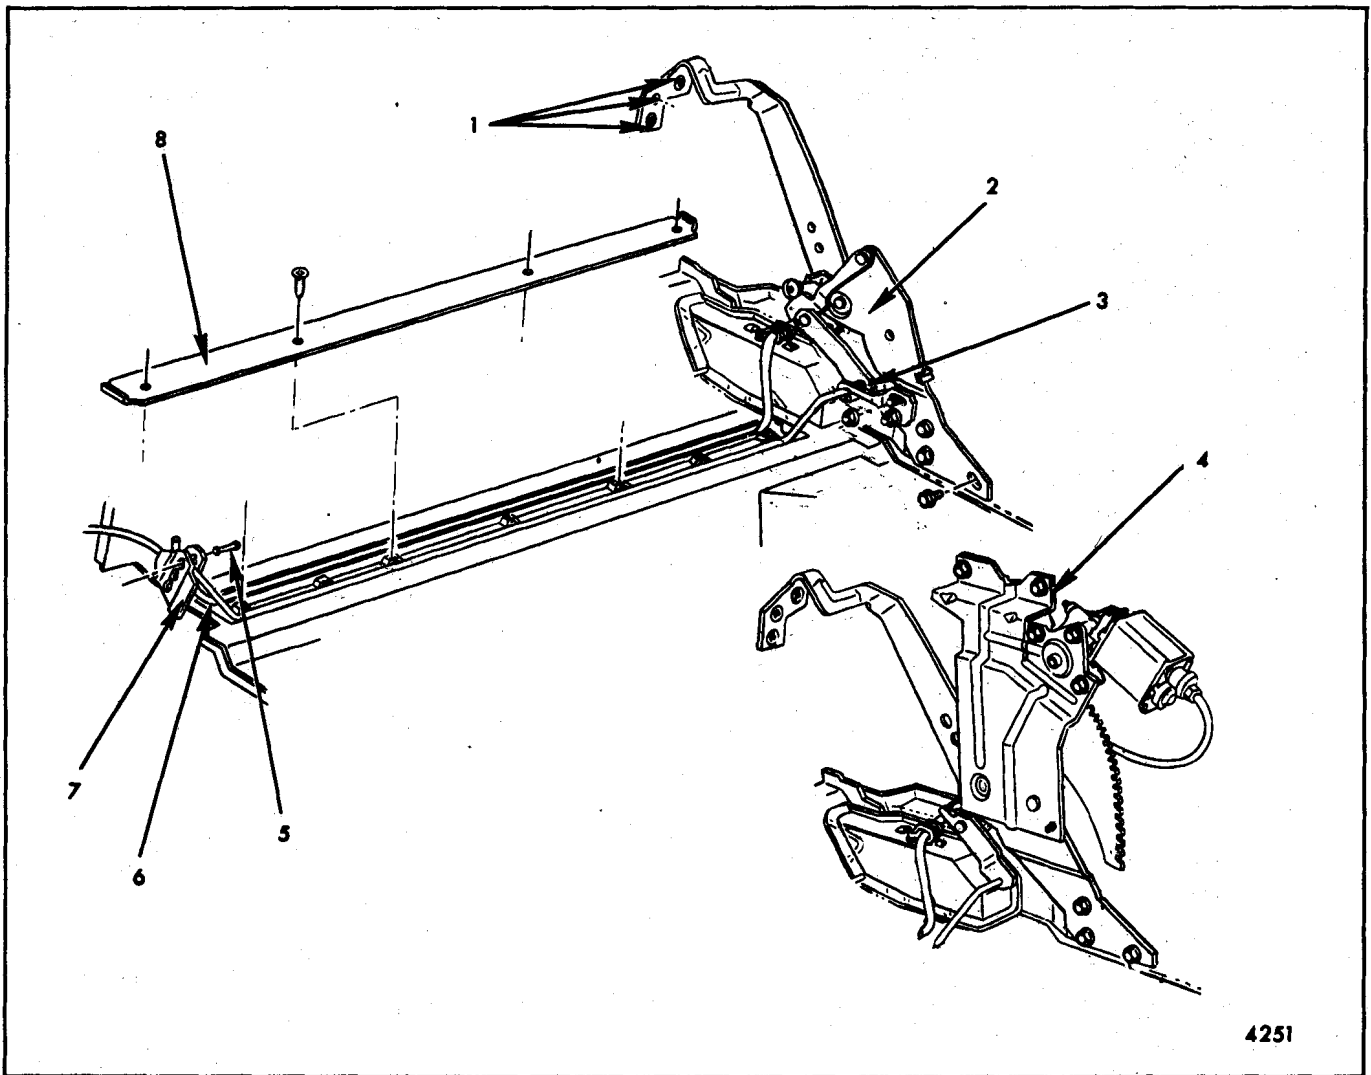

Fig. 9-22-Tail Gate Torque Rod and Hinge Arm Relationship
The retractable tail gate torque rod provides a counterbalance force for the operating cycles of the gate resulting in decreased opening and closing effort. The adjustable end of the torque rod is located on the right side of the body under the rear load floor and is secured in one of three adjusting locations by a pin inserted above the rod and through a key slot in the torque rod retainer (Fig. 9-22).
3. Remove torque rod cover plate screws and remove cover plate (Fig. 9-22).
3. On manual tail gates adjust torque rod block-out fore or aft (Fig. 9-22) if necessary, so that tail gate drops 3 to 6 inches after being released by the control switch.
4. Raise tail gate sufficiently to remove regulator lift arm hinge-to-tail gate attaching screws (Fig. 9-22).
6. Mark location of lift arm hinge assembly on body and remove attaching screws (Fig. 9-22). Remove regulator and lift arm hinge assembly from body.
1. Tighten regulator lift arm-to-tail gate attaching screws securely (Fig. 9-22).
3. Detach wire harness at motor terminal and remove motor-to-regulator attaching bolts. Remove motor (Fig. 9-22).